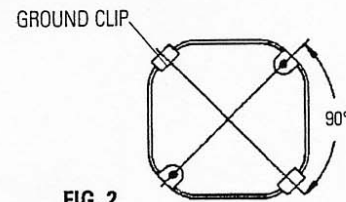
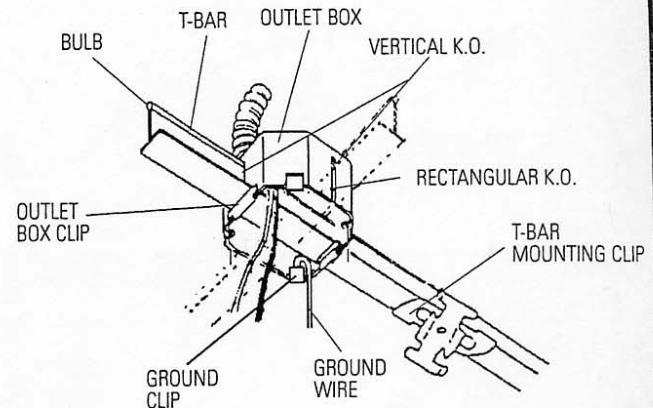

FIG. 2
FIG. 3
2. Attach a bare or green color insulated 12 AWG solid copper GROUND WIRE approximately 8" long to the OUTLET BOX using the GROUND CLIP (supplied). Position CLIP as shown in Fig. 2. Bend wire so unattached end is pointing away from the OUTLET BOX. (Fig. 3).
6. Fasten 12 AWG solid SUPPLY GROUND WIRE to OUTLET BOX using a GROUND CLIP (supplied). Position 180° from other GROUND CLIP. (Fig. 2)
7. Rotate T-BAR MOUNTING CLIPS onto the T-BAR. (Fig. 3) Use 2 T-BAR MOUNTING CLIPS for a 2' or 4' TRACK UNIT, 3 for an 8' TRACK UNIT. DO NOT EXCEED 4' BETWEEN MOUNTING CLIPS.
3. Slide OUTLET BOX CLIPS onto OUTLET BOX. (Fig. 3)